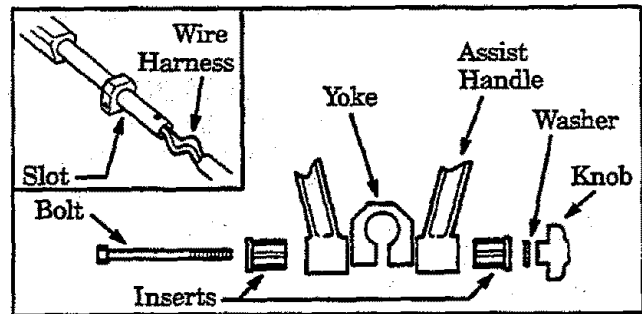

Figure 1
1. Pass the wire harness through the slot in the bottom of the yoke. Figure 1 (inset).
2. Slide the yoke onto the upper tube as shown in Figure 1 (inset).
3. Place the assist handle over the yoke. Assemble parts as shown in Figure 1.
4. Place the bolt in the assist handle. Figure 1. Thread the knob onto the bolt and tighten until the parts are snug.